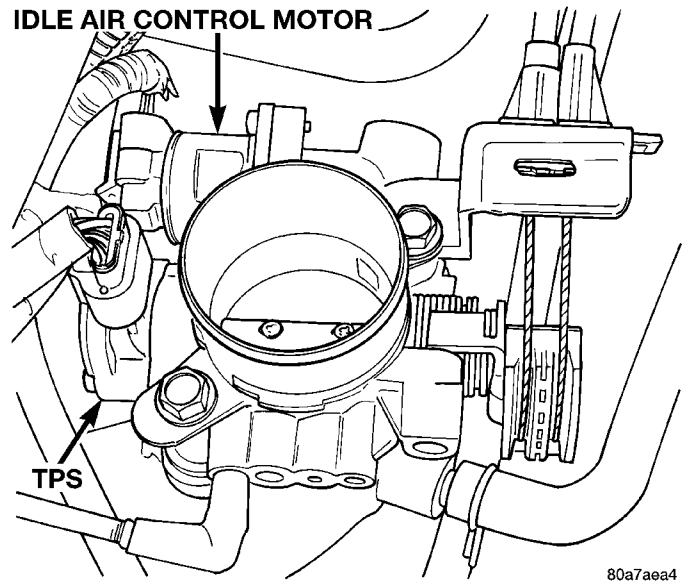

Fig. 34 Idle Air Control Motor and Throttle Position Sensor—Typical
(5) Check the electrical connections at the idle air control motor and throttle position sensor (Fig. 34).